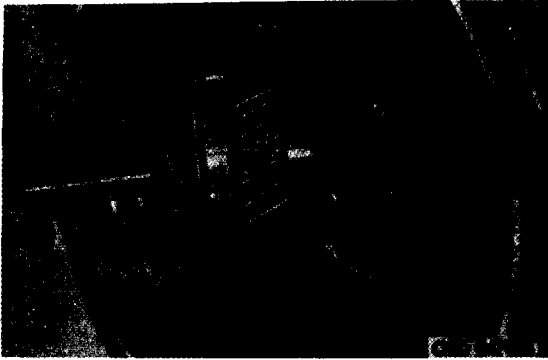

Figure 248. Removing input shaft ball bearing assembly
- (b) Tap input gear lightly with a soft hammer and pull input shaft and ball bearing assembly (fig. 248) from transmission case.